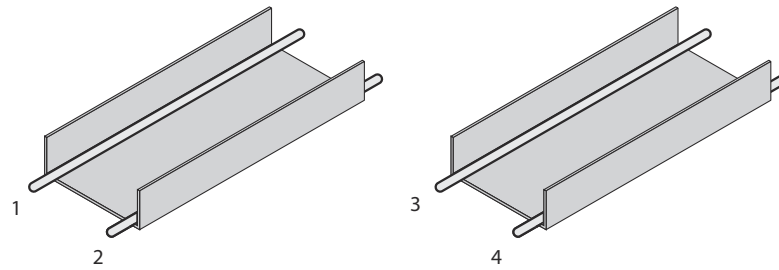
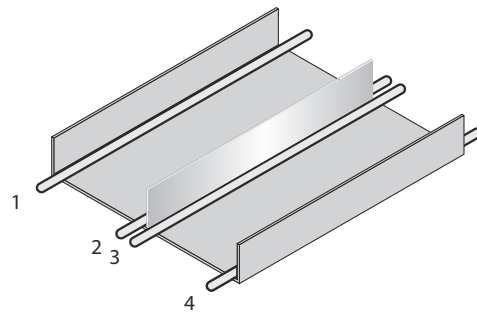

Figure 5: Ideal laying - Place cables in different cable channels
Figure 6: Alternative laying - Separate cables with metallic separators
- ▷ Route the cables in groups 1, 2 and 3, 4 in different cable channels or use metallic separators (see figure 5 and see figure 6). This applies particularly if cables of devices with a high level of radiated emission, such as frequency converters, are laid parallel to sensor cables.